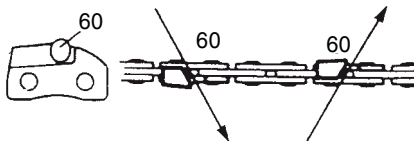

Fig. 46
File (60) cutter on one side of the chain from the inside out. File on forward stroke only. (Fig. 46)